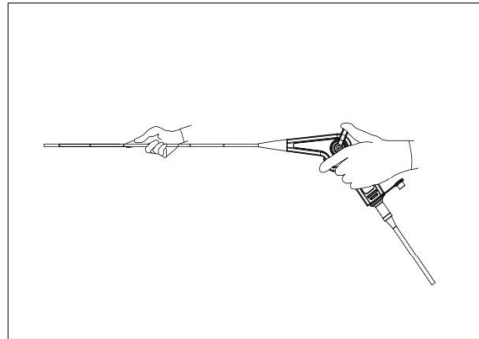

Fig 7.4
1. When carrying the endoscope by hand, hold the control section in one hand and hold the distal end of the insertion tube securely, but gently without squeezing, in the other hand (see Fig 7.4).